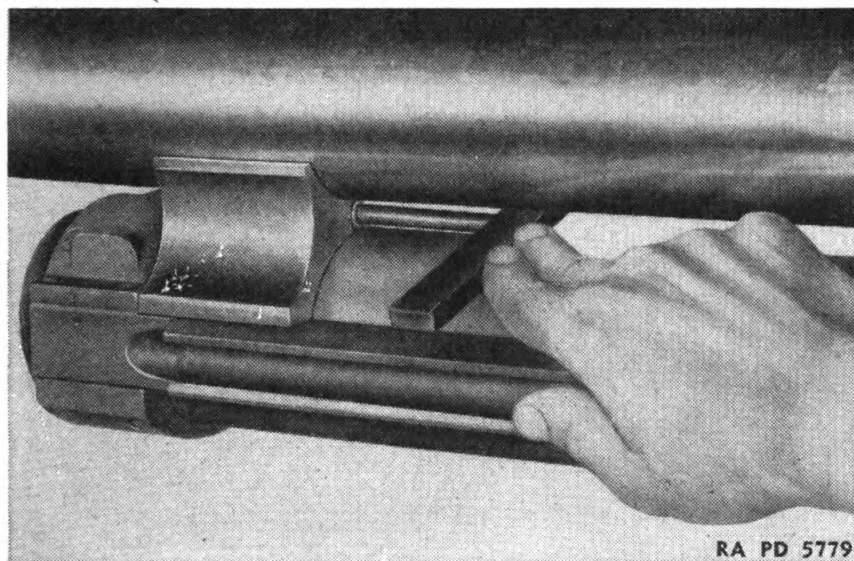

FIGURE 50.—Placing tube support for removal of gun tube.
(2) Raise the carrier until caught by carrier catch and pull the lock frame to the rear until caught by the carrier dog. *It is important that this be carried out in order to prevent the extractor from being damaged by the gun tube.*
(3) Place the tube support in position between the recuperator cylinder and the tube (fig. 50).